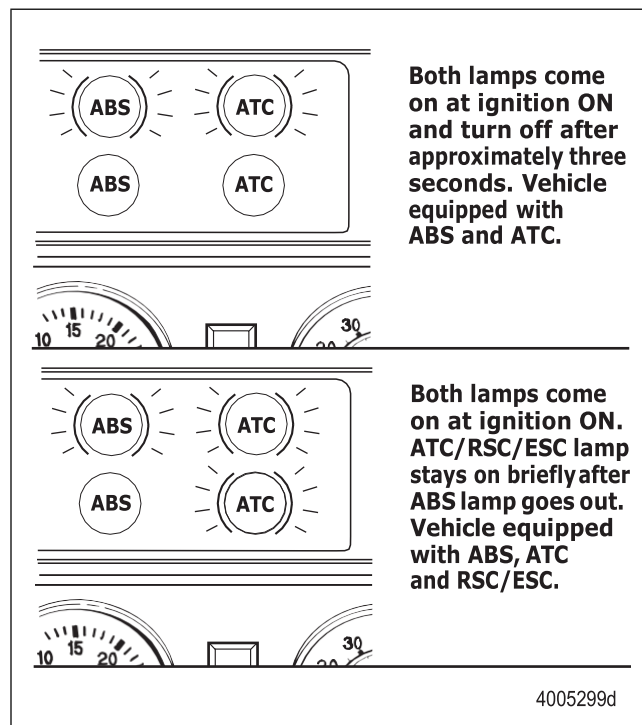

Figure 2.14
- If the vehicle is equipped with ATC, but not RSC/ESC, when the ignition is turned to the ON position, the ABS and ATC lamps will light for approximately three seconds, then both lamps will turn off simultaneously. Figure 2.14.